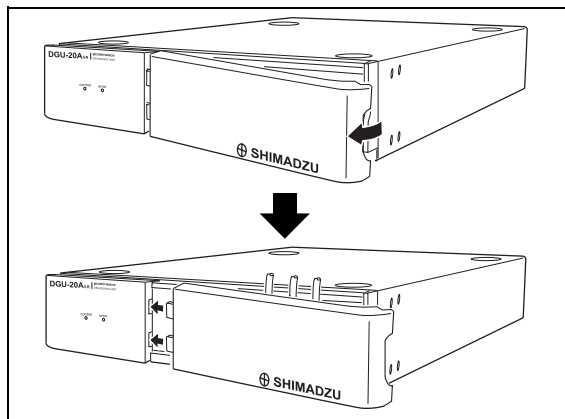

Fig. 3.18
- 1** To connect tubings from reservoirs or solvent delivery module to the degassing unit, remove the front panel, as shown in "Fig. 3.18".